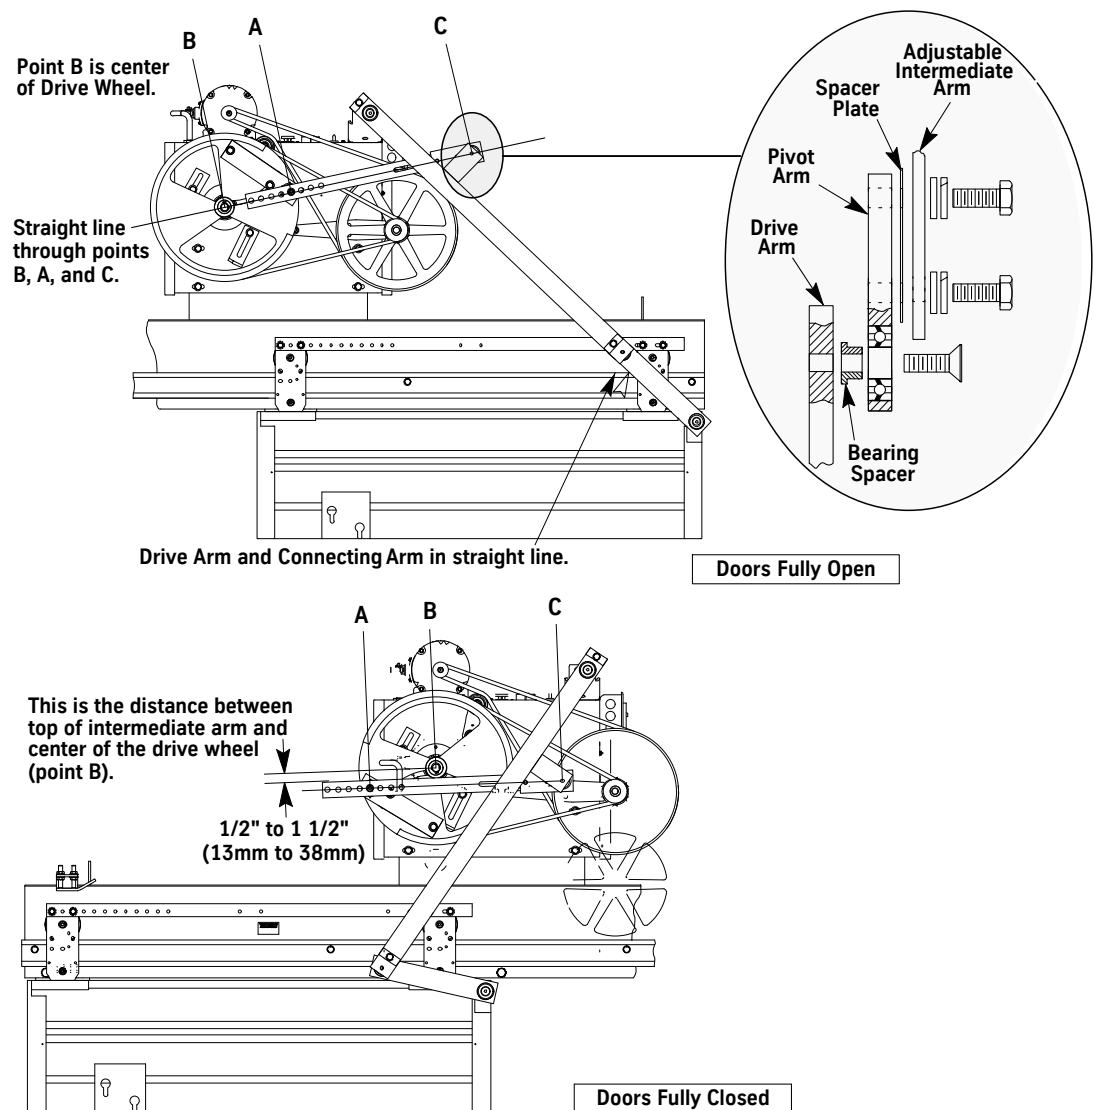

Figure 5 - Adjusting the Drive Arms
- Note:** The operator may require repositioning within the slots to achieve the correct drive arm-to-connecting arm relationship with the doors fully open. The hole in the drive arm support bracket may also be used to achieve this relationship. For more details, see Figure 5 on page 13.
See Figure 5 on page 13 for all steps in this procedure.